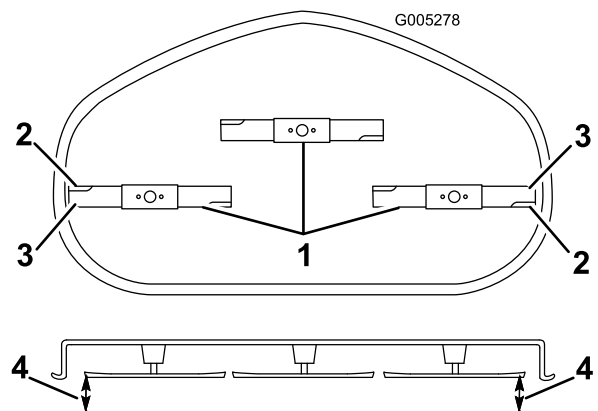

Figure 56
- Carefully rotate the blade(s) so that they are all side to side (Figure 56).
- Measure between the outside cutting edges and the flat surface (Figure 56). If both measurements are not within 5 mm (3/16 inch), an adjustment is required; continue with this procedure.